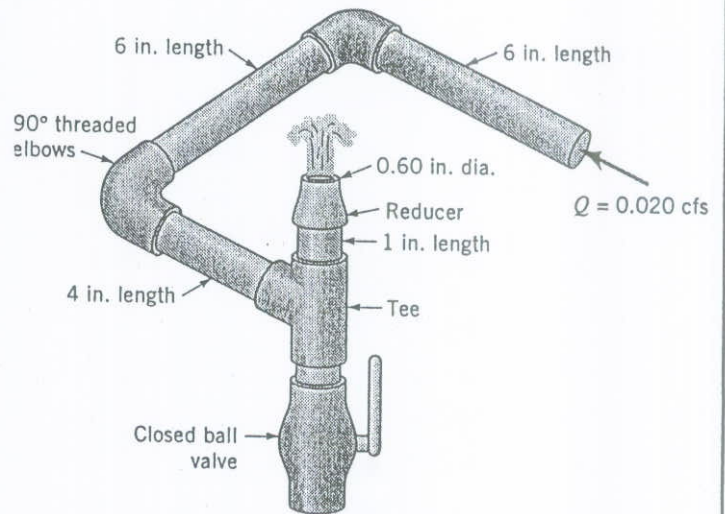

FIGURE P8.70
8.70 Water flows steadily through the 0.75-in. diameter galvanized iron pipe system shown in Video V8.14 and Fig. P8.70 at a rate of 0.020 cfs. Your boss suggests that friction losses in the straight pipe sections are negligible compared to losses in the threaded elbows and fittings of the system. Do you agree or disagree with your boss? Support your answer with appropriate calculations.